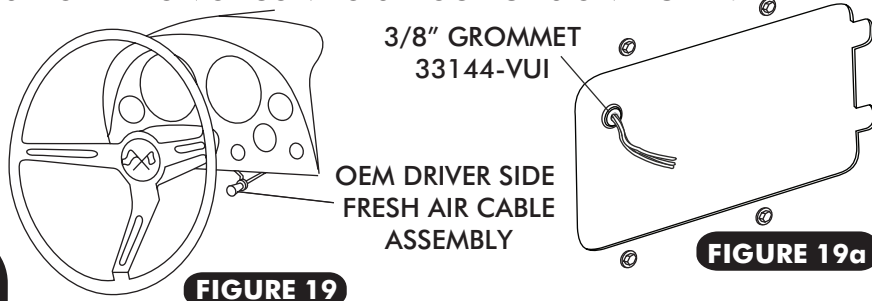

FIGURE 19
- ☐ ROUTE A/C WIRES THROUGH 3/8" GROMMET AS SHOWN IN FIGURE 19 BELOW. (12 VOLT/ GROUND/ BINARY SWITCH/ HEATER VALVE).
- ☐ RELOCATE OEM DRIVER SIDE FRESH AIR CABLE ASSEMBLY TO OEM PASSENGER SIDE MOUNTING LOCATION SEE FIGURE 19 BELOW.